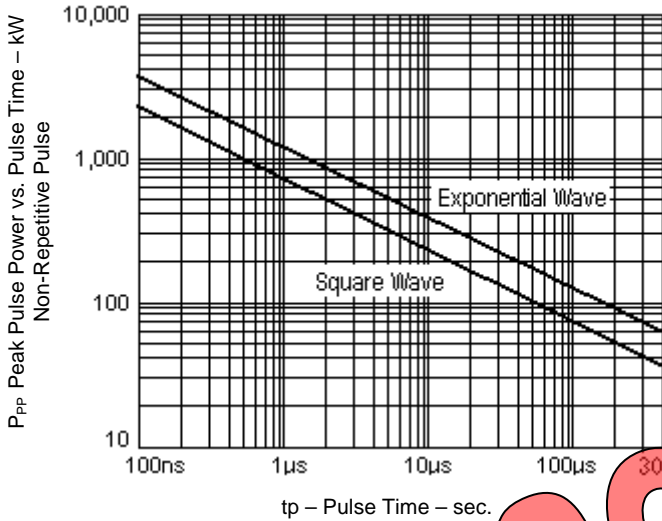

FIGURE 1
NOTE: The 1MHz damped oscillatory waveform (3) has an effective pulse width of 4  $\mu$ s. Equivalent peak pulse power for the 200KP295CVCL and 200KP295CA at each of the pulse widths represented in RTCA/DO-160D for wave forms 3, 4 and 5a (above) have been determined referencing Figure 1 herein as well as Application Notes 104 and 120 (found on Microsemi's website) and are listed below.